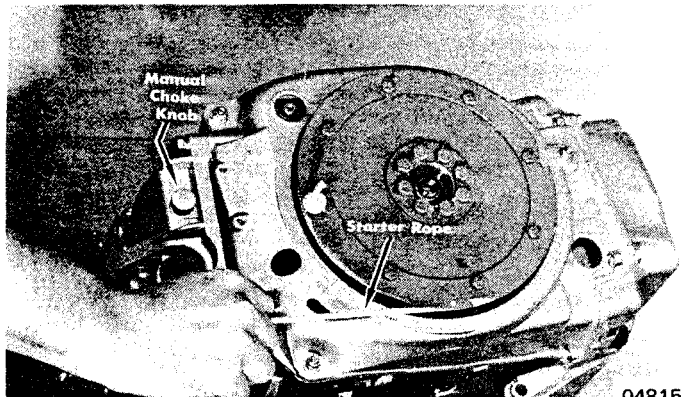

Figure 28. Manual Starting and Manual Choke (Pull "Up")
10. If motor should falter, actuate choke. (Figure 28 is typical.)
9. If motor is cold, set manual choke (Figure 28, typical) in closed position (pull or turn "Up"). Avoid use of choke if motor is warm.
10. Engage end of hand starter rope in one of the recesses provided in the flywheel starter plate. (Figure 28) (On 2-cylinder models, hand starter rope handle is on the top cowl.) Grasp handle firmly and pull with a full, vigorous stroke.